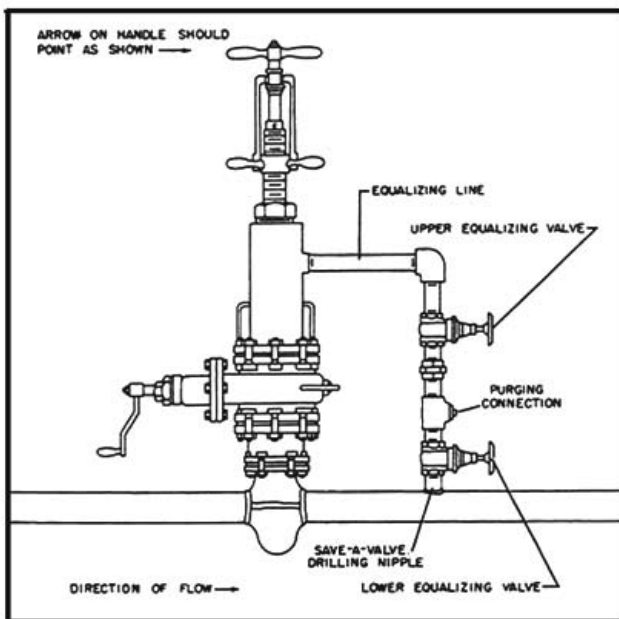

FIGURE 19
5. See **Figure 19** when using one stopping machine to stop off a pipe.